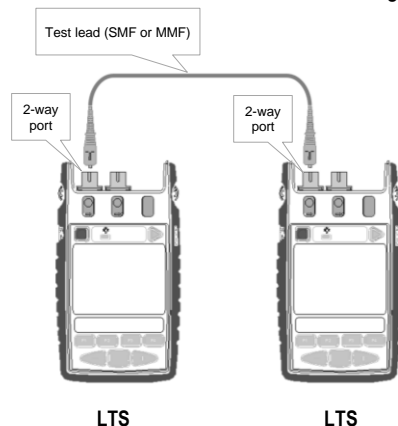

Figure 15A. Test set up for length measurement referencing
1. Connect the instruments as shown in Figure 15A.